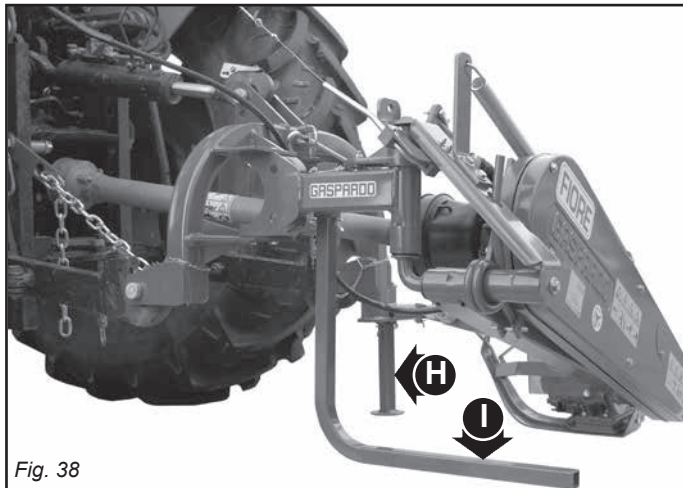

Fig. 38
- **Lastly, store the implement in a dry place where it cannot be tampered with by unauthorized persons; the mowing machine must be set-up on flat and compact ground, supported by the relative bearing struts (H-I, Fig. 38).**